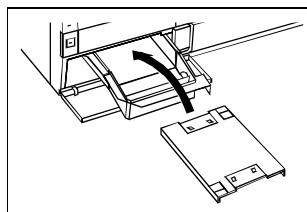

Figure 6-42. Inserting the Cleaning Plate
3. Insert the belt cleaning plate (Figure 6-42).